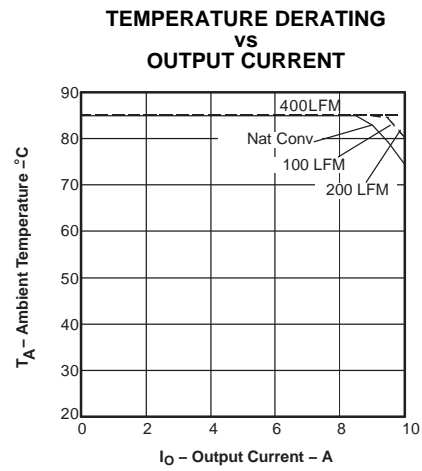

Figure 4.
- (2) SOA graphs represent the conditions at which internal components are at or below the manufacturer's maximum operating temperatures. Derating limits apply to modules soldered directly to a 4 in x 4 in, double-sided PCB with 1 oz copper. For surface mount products (AS and AZ suffix), multiple vias (plated through holes) are required to add thermal paths around the power pins. Please refer to the mechanical specification for more information. Applies to Figure 4.